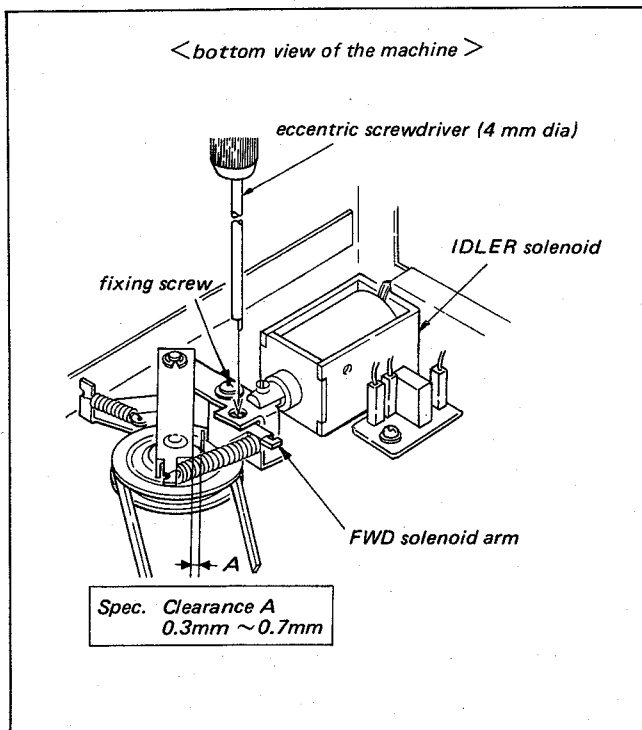

Fig. 4-7. Idler solenoid adjustment (FWD mode without cassette)
- If the Idler Solenoid happens to be incorrect as shown in Fig. 4-7 that the clearance is insufficient, the possible trouble is that the take-up reel-table rotation becomes unstable, because the torque, which is generated by motor and is transmitted by a rubber belt, cannot be duly transmitted to the Take-up Reel Table.
2. While the machine is in FWD mode, check to see that the clearance A shown in Fig. 4-7 is 0.3 mm ~ 0.7 mm. If not, adjust the solenoid arm position with 4 mm diameter eccentric screwdriver (Jig Ref. No. J-5).